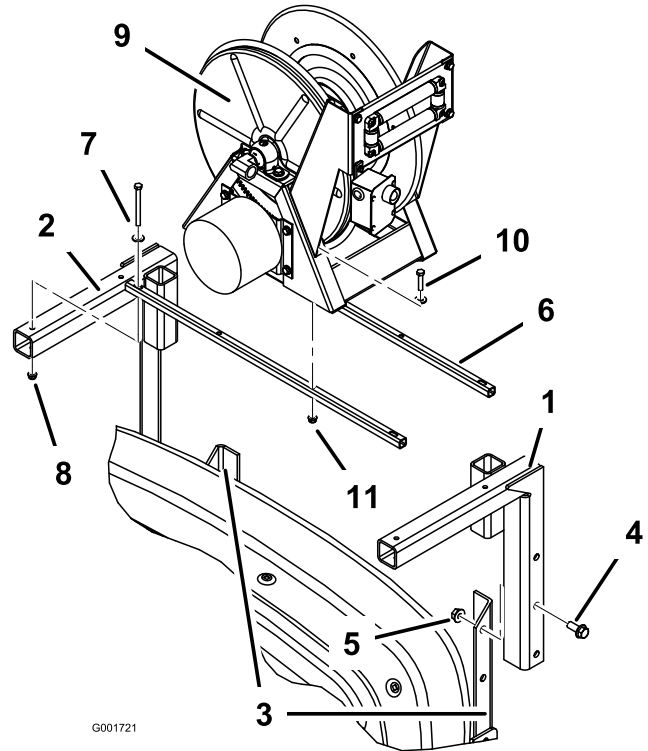

Figure 2
1. Begin at the rear of the machine. Install the left and right hose reels mounts to the boom frame as shown in Figure 2. Secure the mounts to the boom frame with four flange bolts (1/2 x 1-1/4 inches) and four flange nuts (1/2 inch).
2. Install two hose reel mounting tubes to the top of the hose reel mounts (Figure 2) using four bolts (5/16 x 3-1/2 inch), four flat washers (11/16 inch outside diameter), and four flange nuts (5/16 inch).
3. Install the hose reel assembly onto the hose reel mounting tubes (Figure 2) using four bolts (5/16 x 1-1/2 inches), four flat washers (7/8 inch outside diameter), and four flange nuts (5/16 inch). Do not fully tighten the fasteners to allow for later adjustment.